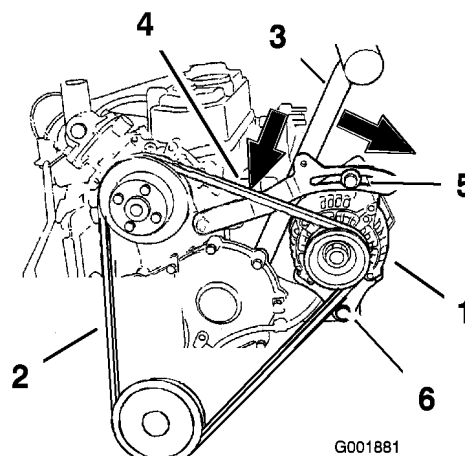

Figure 62
5. Loosen the two bolts holding the alternator (Figure 62).
6. Remove the belt from the pulleys and alternator (Figure 62).
7. Install a new belt around the pulleys and the alternator (Figure 62).
1. Place a handle between the alternator and cylinder block (Figure 62).
2. Adjust the alternator to the outside until there is 3/8 to 1/2 inch (10 to 13 mm) deflections in the belt between the engine and the alternator (Figure 62).
5. If the deflection is correct, torque the upper bolt to 170 in-lb (19 N•m) and the bottom bolt to 45 ft-lb (61 N•m) (Figure 62).